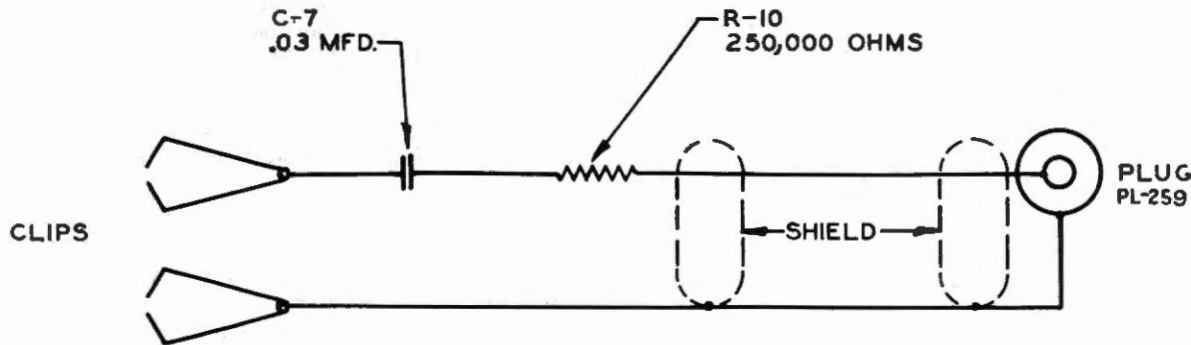

Figure 4-2. Circuit Diagram of Cord CG-259/AP
(1) A JAN-504G (V-603) rectifier tube supplies +350 volts d-c to the various units, to the JAN-OD3/VR-150 regulators (V-601 and V-602), and to the cathode-ray tube JAN-3BP1 (V-1) horizontal and vertical plate circuits.
(2) A JAN-2X2 (V-604) rectifier tube supplies the high potential, -1300 volts, required by the cathode-ray tube. The voltages, measured to ground, supplied to the cathode-ray tube (V-1) electrodes are approximately as follows: Anode 2 +150, grid -1300 (see table 5-17).
g. CORD CG-259/AP.—Use this test probe when the unit functions as a cathode-ray oscilloscope with the "MODE OF OPERATION" switch on "OSC." The signal is fed to the video amplifier of Radar Indicator Assembly AN/APA-11 by means of a shielded cord and passes through capacitor C-7 and resistor R-10. (See figure 4-2.)